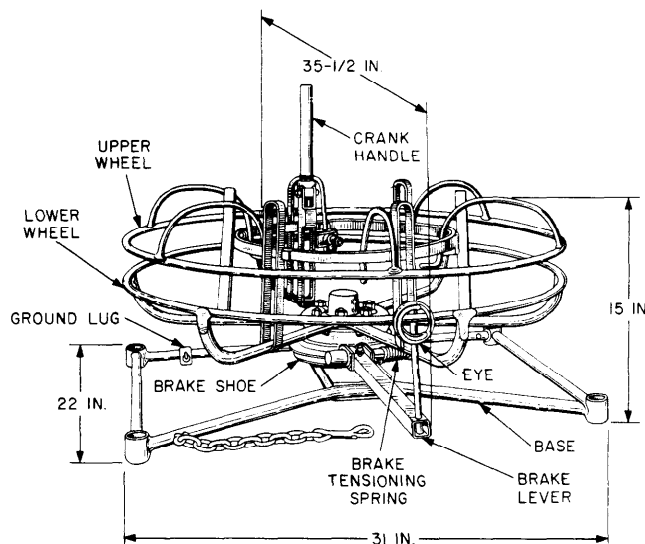

Fig. 1—B Line Wire Reel
2.01 The B Line Wire Reel (Fig. 1) weighs approximately 70 pounds and consists of the following components: